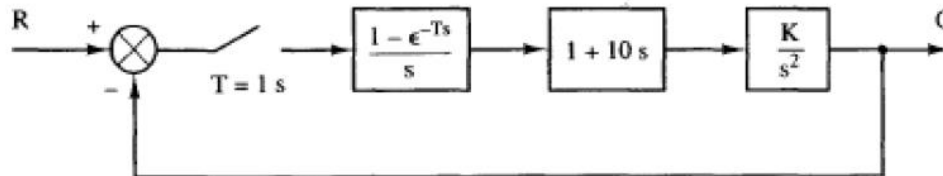

Figure 7-9 System for Example 7.8.
Consider the system shown in Figure 7-9. The transfer function  $[1 + 10s]$  is that of an analog proportional-plus-derivative (PD) controller [1]. The digital PD controller is covered in Chapter 8. We wish to determine the form of the root locus and the range of  $K$  for stability.